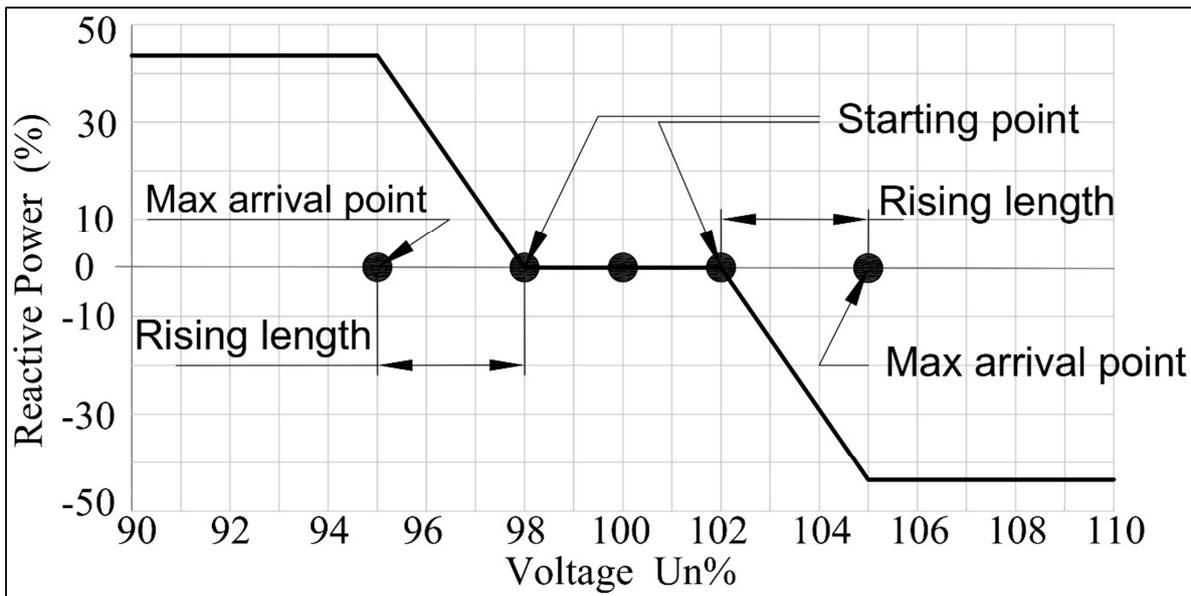

Figure 3.19 QU curve when power factor is 0.9,
- **Reactive Power-Vol curve:** Reactive power-voltage amplitude curve abide by Universal standard. Please set the following parameters as required: *Starting point of Q-U%*, *Rising length of Q-dU%*.For example, As shown in the figure 3.19, QU curve when power factor is 0.9, From the power factor of 0.9, we can calculate the maximum reactive power as 43.59%\* apparent power ) .**Starting point of QC:**Starting point of capacitive reactive power.